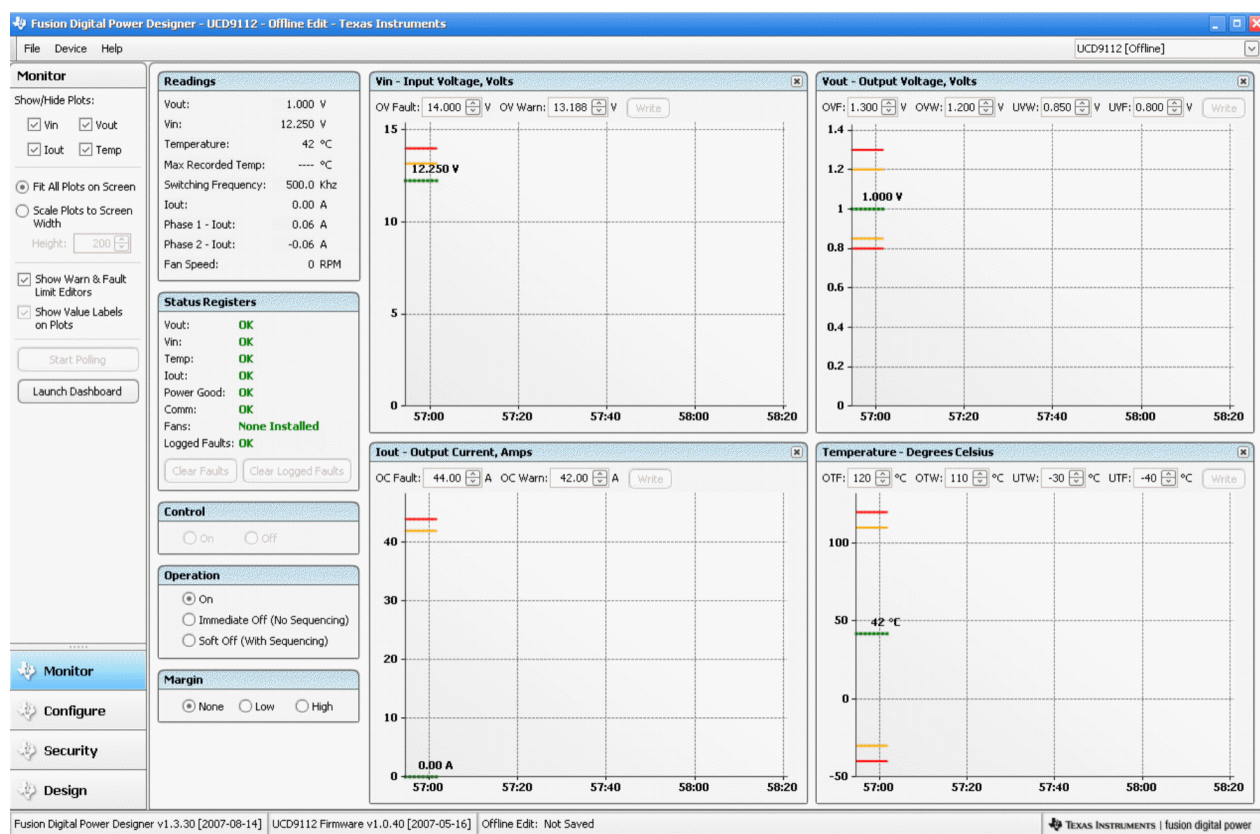

Figure 3. Graphical User Interface (GUI) Display
3. Double-click the GUI icon on the host. The GUI interface screen appears, as shown in Figure 3.
Turn on the output voltage (by default, set to 1 V) by clicking **ON** under the *Control* section as shown in Figure 3. Use the meter V2 to measure the output voltage as described in Section 6.3.3. Change the load current from 0 A to 40 A. If you record the voltage readings from V2, you can then calculate the load regulation.
| Step 1. | Click Configure on the lower left portion of the screen (see Figure 3). |